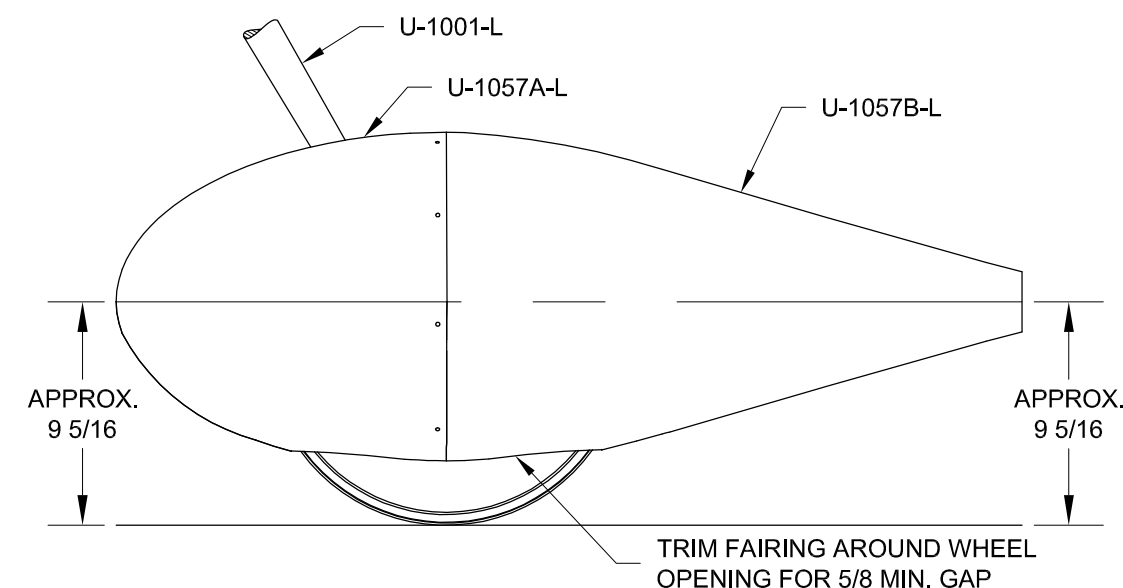

FIGURE 4: ALIGNING FAIRING IN PITCH
Step 4: Slide the U-1057A-L Wheel Fairing Front onto the U-1057B-L Wheel Fairing Rear. Trim the wheel fairing front where it interferes with the U-1001-L Main Gear Leg and brake line (not shown) until the wheel fairing front can be clecoed to the wheel fairing rear as shown in Figure 4.
Check that the fairing is parallel to the floor and Shim as needed to make the front and rear dimensions the same. Mark wheel fairing front and rear around the wheel opening to yield clearance called for in Figure 4.